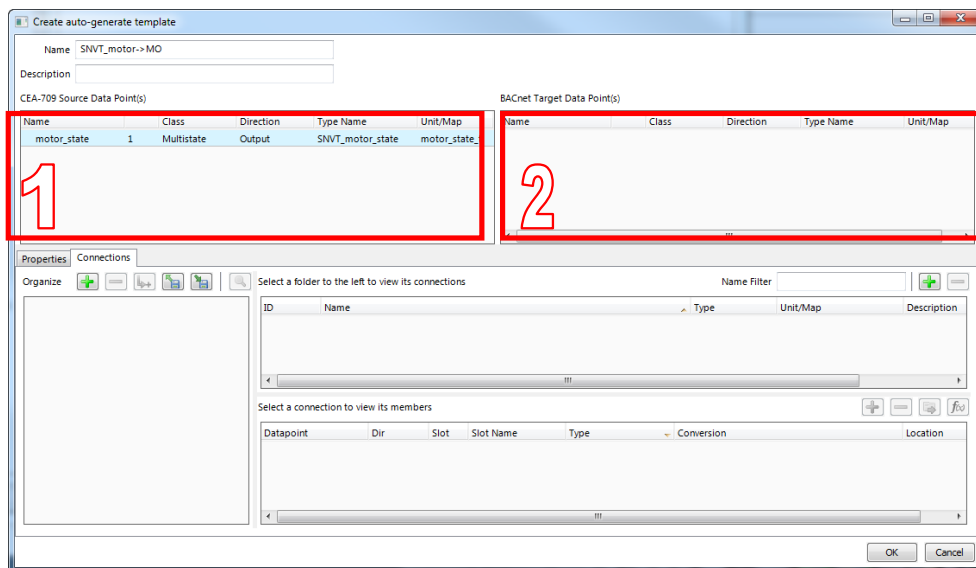

Figure 189: Auto-generate template editor.
- The auto-generate template editor opens as shown in Figure 189. It contains two data point lists. The left-hand (denoted '1') list is pre-filled and contains the selected source data points. They are locked and cannot be modified. The right-hand list (denoted '2') is intended for creating the desired target data points.
3. The auto-generate template editor opens as shown in Figure 189. It contains two data point lists. The left-hand (denoted '1') list is pre-filled and contains the selected source data points. They are locked and cannot be modified. The right-hand list (denoted '2') is intended for creating the desired target data points.